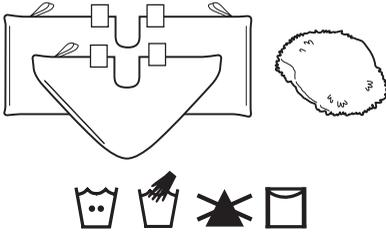

fig.27
- 1 We recommend washing your micro-fiber cleaning pads separately from other fabrics to avoid picking up lint. **Only use liquid detergent (no powder detergent). Don't use any fabric softeners or bleach.** Line dry or dry on a low dryer setting. (fig. 27)